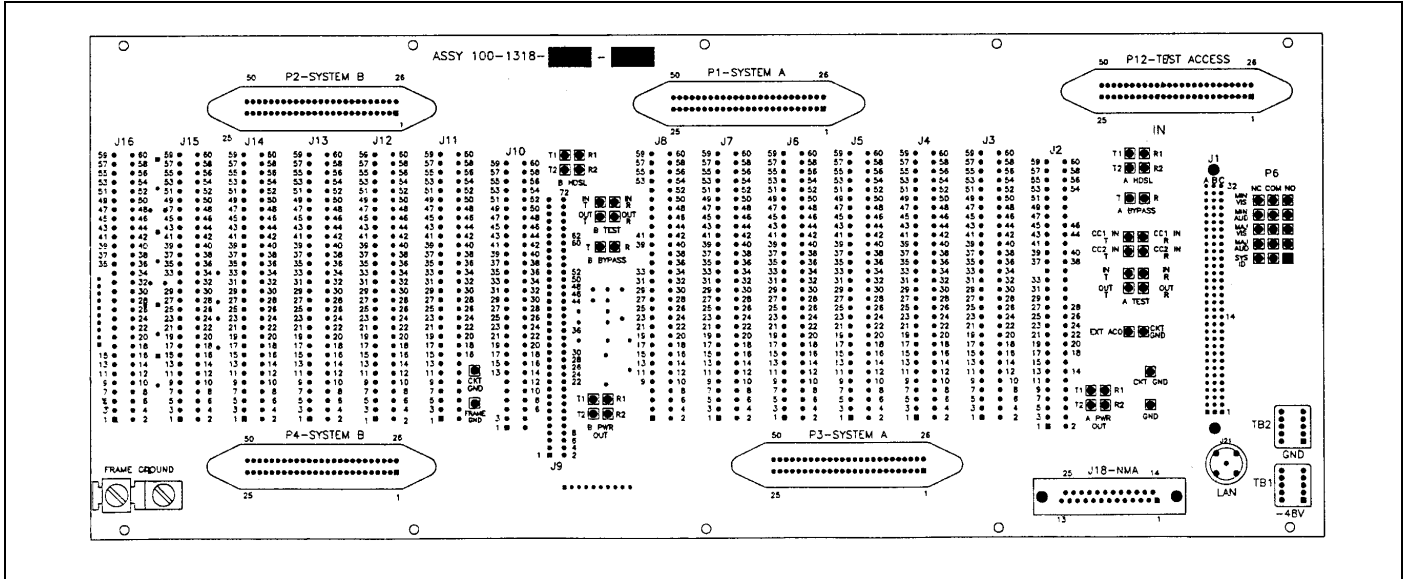

Figure 2. FCS-718 COT Shelf Backplane.
6.01 The backplane of the FCS-718 COT Shelf (Figure 2) contains the following connectors: